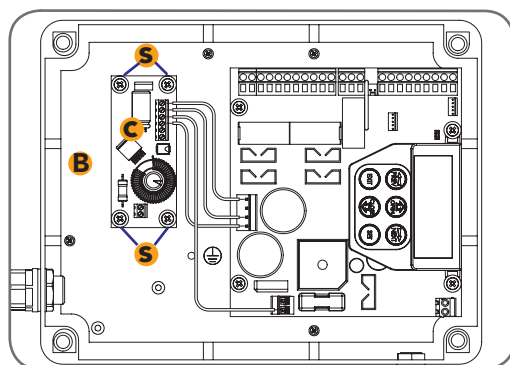
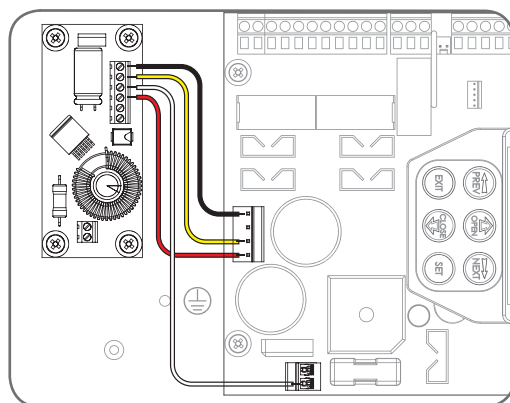

Fig 06
Fig 07
3. Mount the Charger Board "C" on the Control Box's base "B" using four brass spacers and eight M4x8 screws marked "S" (supplied with cb19 solar box part number 00606). See Fig. 06. Plug the Charger Board's three wire harness (red/yellow/black) into the CB-19 board's "SBY-3" connector (Fig. 07).
4. Plug the Charger Board's one wire harness (white) into the "24vac in" connector on CB-19 control board (Fig. 07).